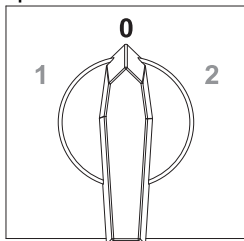

Figure 3-23. Flex Switch—Position 0
6. See Figure 3-23. Switch the flex switch (if equipped) to position 0.